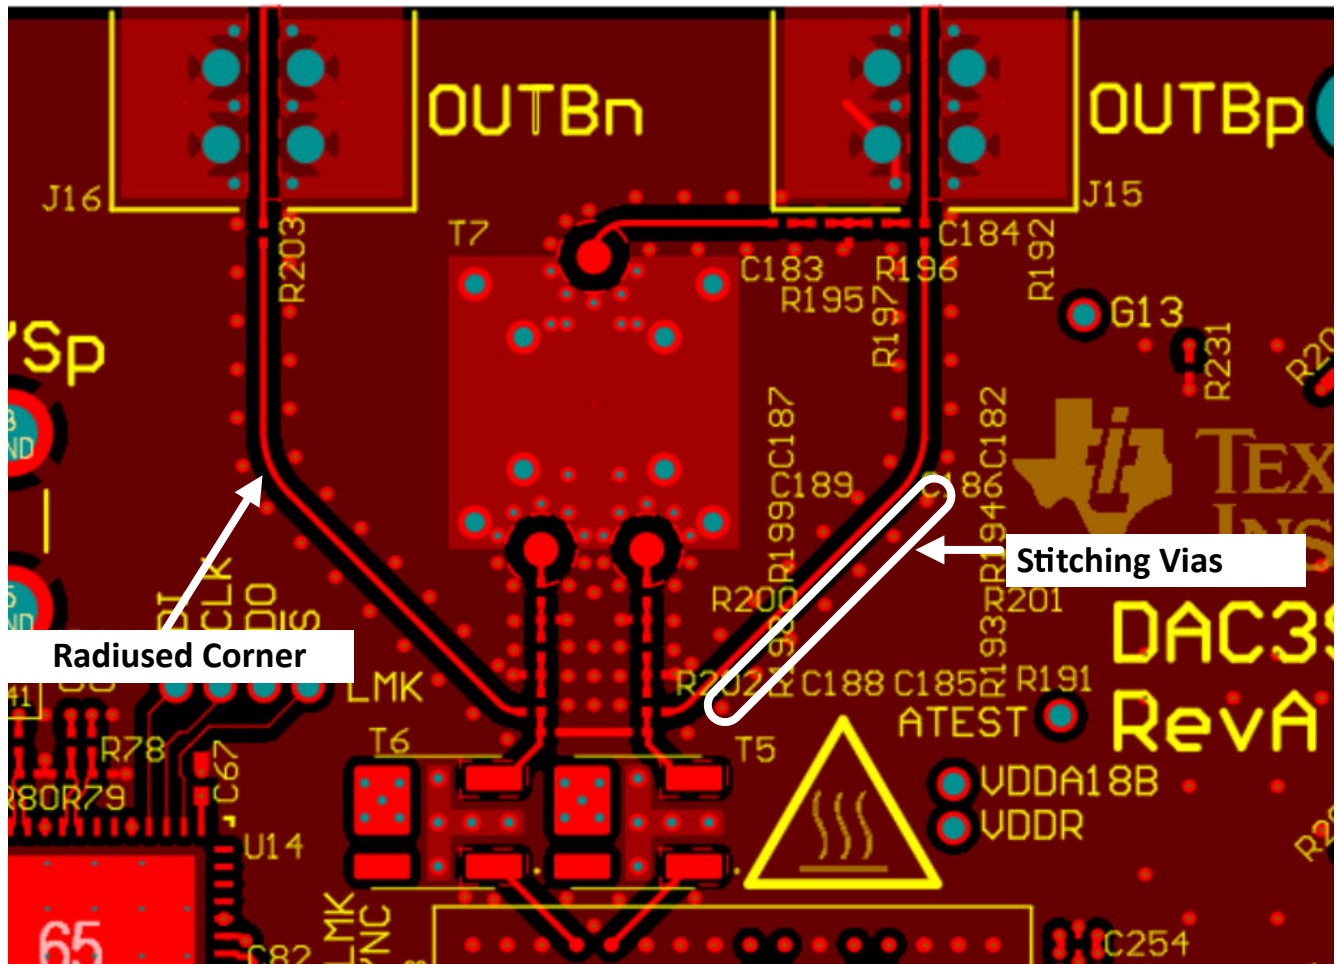

Figure 8-24. Radius Corner and Stitch Vias next to High_Speed Signal Trace
4. Use smoothly radiused corners and avoid 45- or 90-degree bends to reduce impedance mismatches on all high-speed inputs/outputs for both analog and digital signal traces. See Figure 8-24 as an example.
7. Provide symmetrically located ground tie stitching vias adjacent to any high-speed signal at an appropriate spacing as determined by the maximum frequency the trace transports ($\lambda/4$). See 図 8-24 as an example.